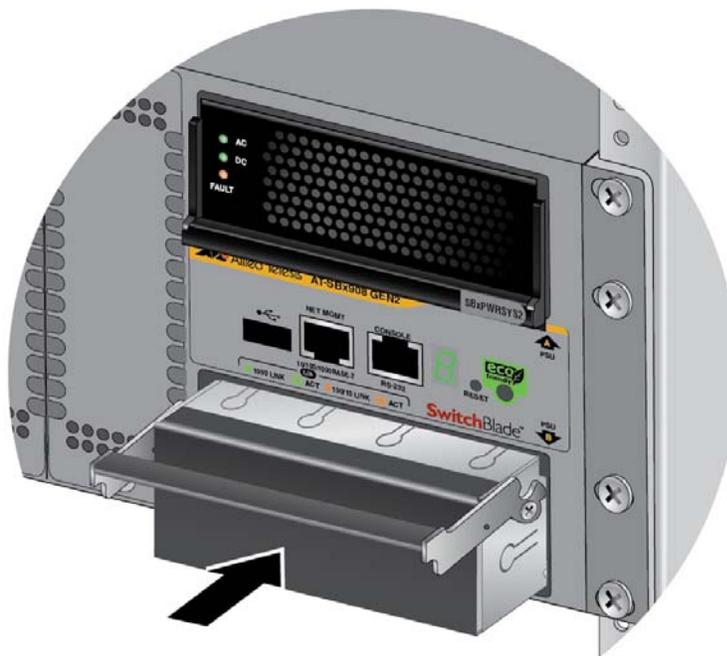

Figure 64. Aligning the Blank Power Supply Cover in the Slot
2. Align the cover in the empty power supply slot and carefully slide it into the slot. Figure 64 on page 116 shows the cover being installed in the PSU B slot.